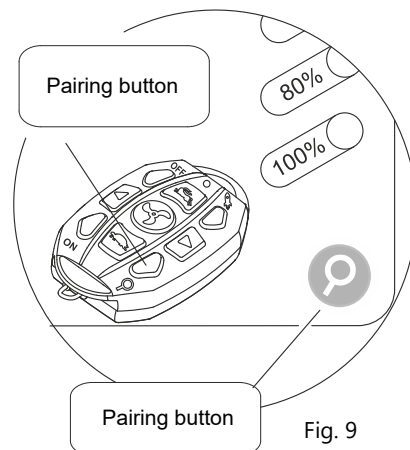

Fig. 9
Press and hold  below the battery status lights on the motor (fig. 9) and  (also the Slower button) on the remote at the same time for three (3) seconds or until you hear 3 beeps indicating that connection has been made and the remote and motor are paired. Release fingers from both buttons.